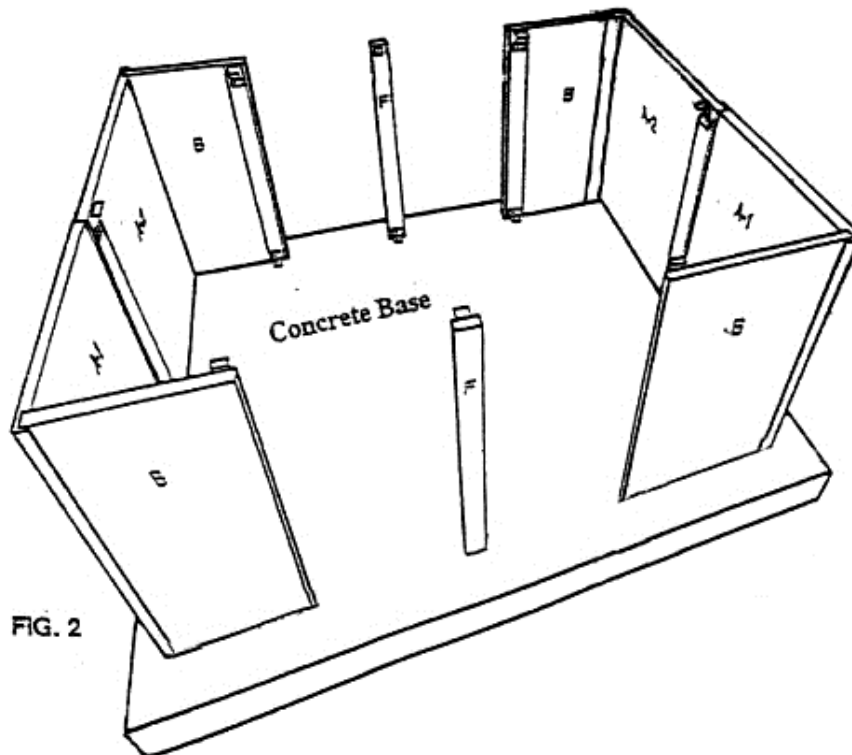

FIG. 2
2. Lay "A1 & A2" panels face down. Using three (3) hexhead screws fasten panels together thru holes provided on inside of panels. (Make sure panels are pulled close together before tightening screws). (For best results, insert a bead of silicone caulk into inside angle on "A1" panel.)
- A. Using four (4) hexhead screws for each section assemble each "A-B" (end and side) section thru holes provided. Set on marked concrete base (FIG 2).
7. Place "F" post in the center of the opening (Fig 2). Install **Inside Aluminum Anchoring Brackets** (Fig 1B) at bottom of "F" posts and **Inside Roof Clips** (Fig 1C) at top of "F" posts.